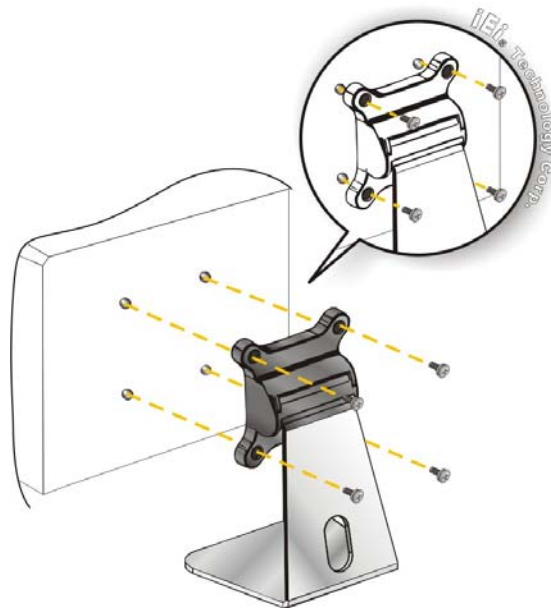

Figure 3-19: Stand Mounting
- Step 2:** Secure the system to the stand with the supplied retention screws (**Figure 3-19**).